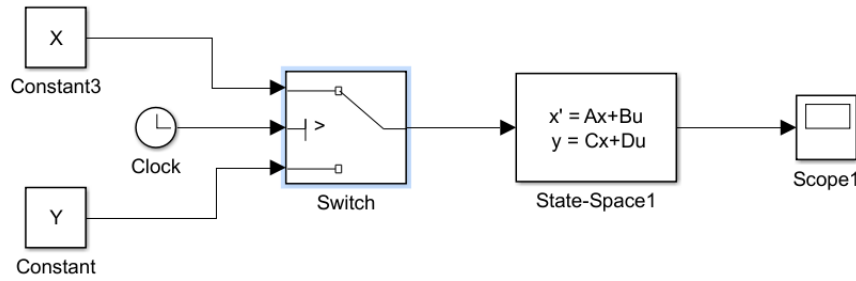

Figure 2
- (d) Set the parameters as  $(m = 1\text{kg}, b = 0.2\text{Ns/m}, k = 1\text{N/m})$ . Run the simulation for an input force whose value is equal to  $1\text{N}$  in  $t = [0, 20)$  and  $0\text{N}$  elsewhere. To build such an input signal you are allowed to employ only *Clock* and *Switch* blocks. Your model should look similar to the one illustrated in Fig. 2. **Insert the plot demonstrating the output signal into your report. You are asked to submit**